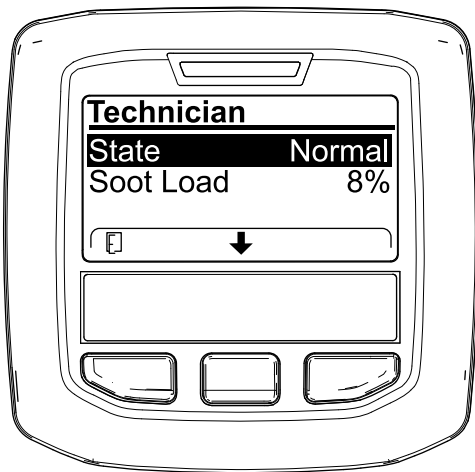

Figure 27
- Use the DPF operation table to understand the current state of DPF operation (Figure 27).